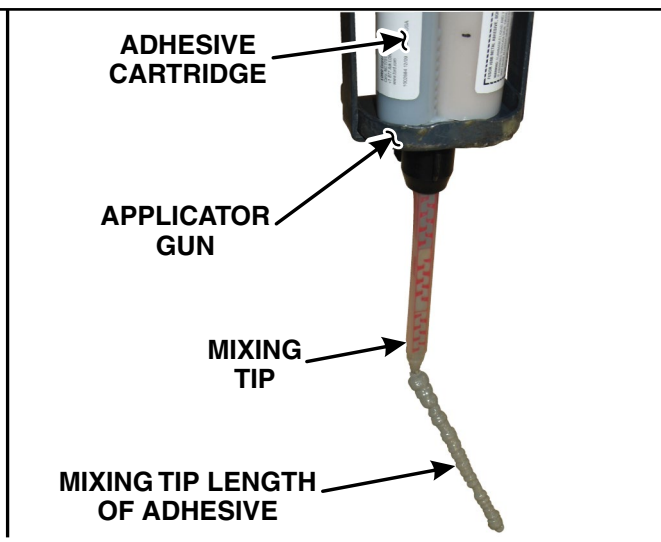

FIGURE 5B
4. Attach the mixing tip and replace the black retaining nut. Dispense a mixing tip length of adhesive onto a piece of scrap cardboard to ensure the product is evenly mixed and the color is consistent. The mixed adhesive should be grayish in color. See Figure 5B.